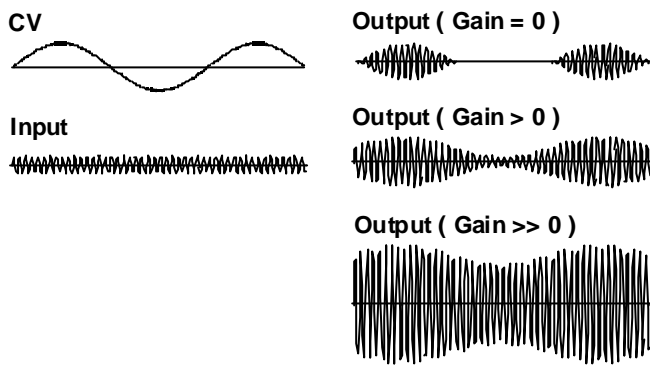

Fig. 2: Resulting amplification with bipolar control voltage (CV) and different gain settings
- H For pure **positive control voltages** (e.g. from an ADSR) the **gain control** is normally set to 0. For **bipolar control voltages** (i.e. positive and negative components, e.g. from LFO or random) the **gain control** is normally set to a value larger than 0 so that the negative part of the control signal is able to have an effect as well (see Fig.2).